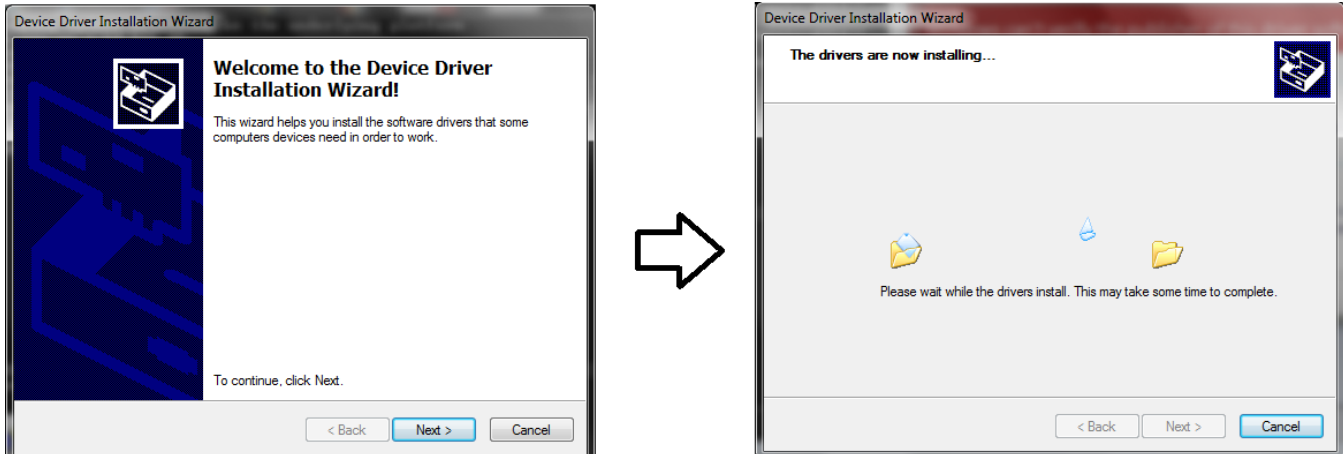
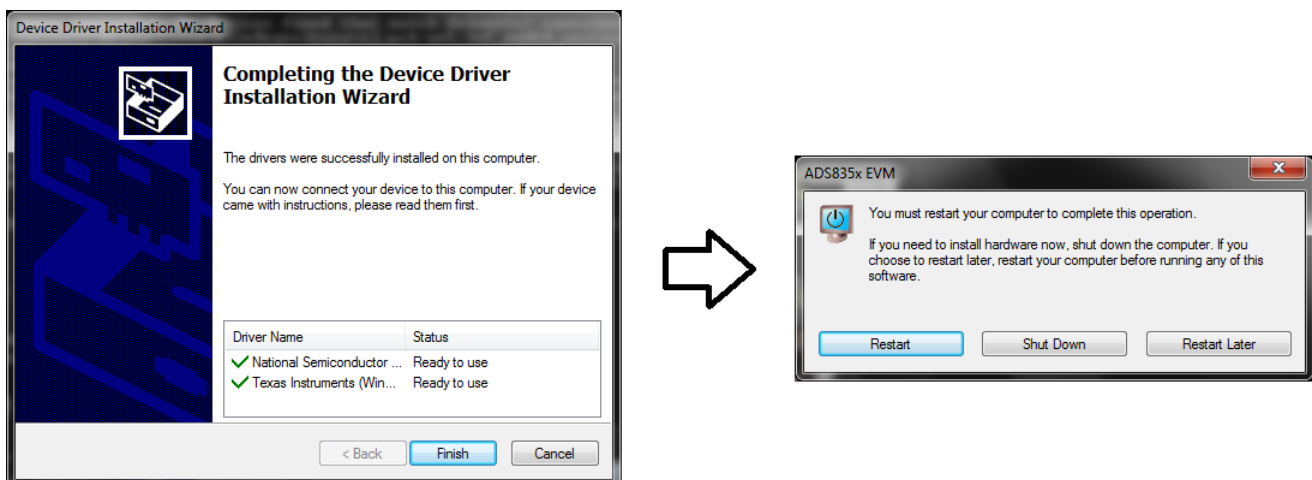

Figure 15. Simple Capture Card Device Driver Installation
Figure 16. Simple Capture Card Device Driver Completion
- Step 1. Immediately after the ADS835x EVM software installation is complete, prompts appear to install the simple capture card device driver, as shown in Figure 15 and Figure 16